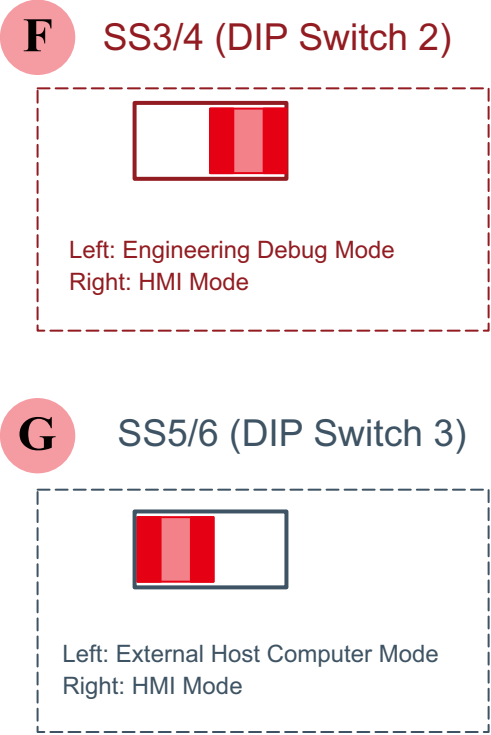

Figure 12 SS3/4 and SS5/6 Positions in External Host Computer Mode
5.1 In External Host Computer Mode (set DIP switch SS3/4 to the right side, SS5/6 to the left side, as shown in Figure 12 "SS3/4 and SS5/6 Positions in External Host Computer Mode"): Run commands, etc., can be controlled via host computer communication.